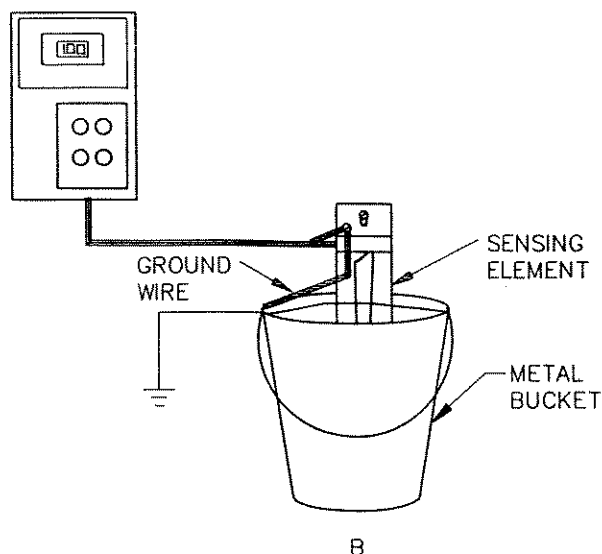

Figure 5-5
- A. Fill a well grounded, bare metal bucket with process water to simulate the stream. Attach a jumper wire between the ground screw on the sensing element and the bucket. See Figure 5-5.
- E. Immerse the sensing element to the level which corresponds to the maximum expected flow rate. See Figure 5-5.